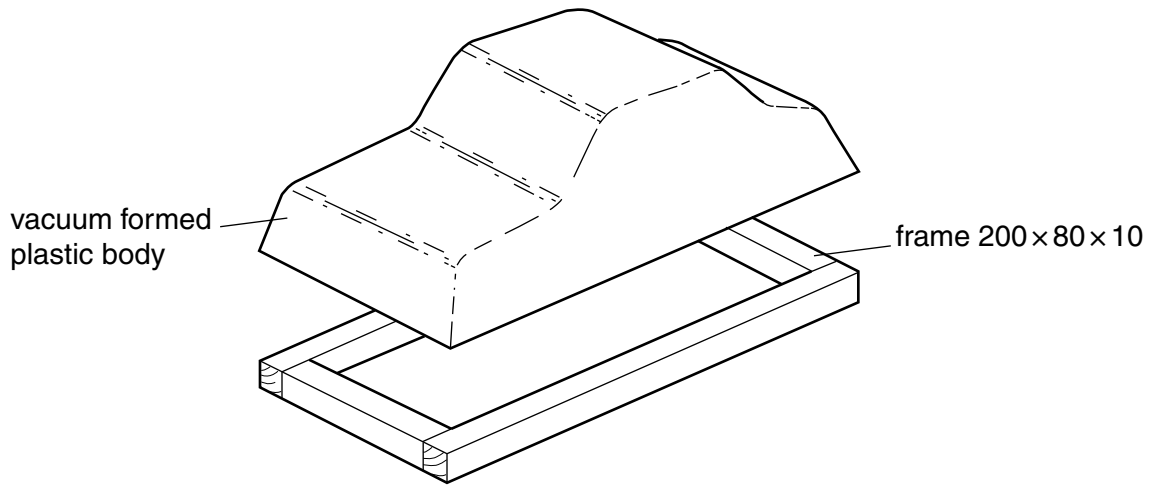

Fig. 2
- 2 Fig. 2 shows an exploded view of an incomplete model car that will be powered by a battery and a small electric motor.